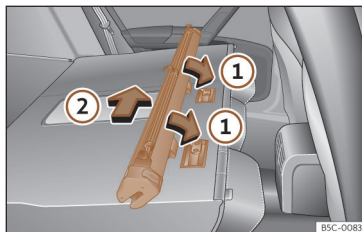

Fig. 136 Assembling the net partition in the rear seat backrests.
- Place the net casing in the rail slots in the direction of the arrows»» **Fig. 136** ①.
- Push the casing towards the left side of the vehicle in the direction of arrow»» **Fig. 136** ② and as far as it will go.
>>> Fig. 136 ②.
>>> Fig. 136 ①.